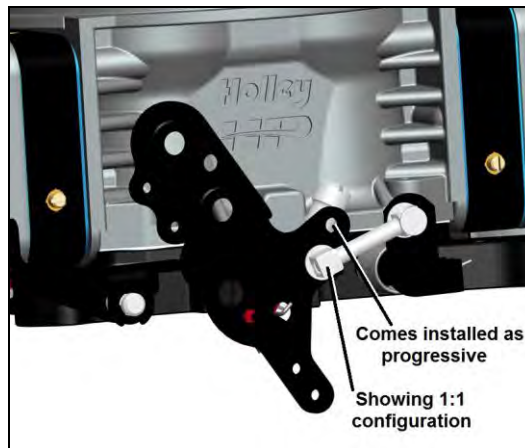

Figure 12
3. For 1:1 operation, the link will need to be installed into the hole of the throttle lever closest to the throttle shaft (See Figure 12)